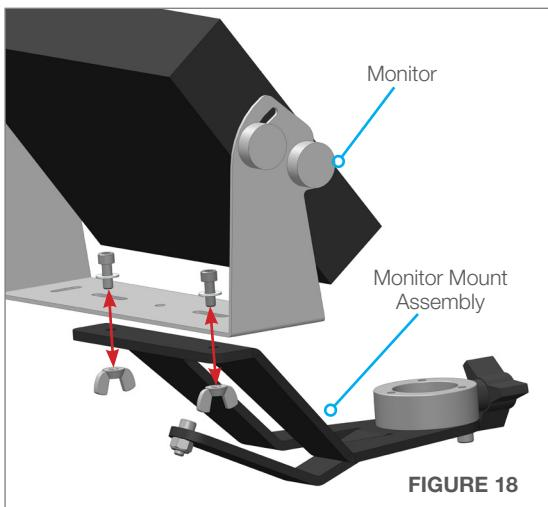

FIGURE 18
1. Attach the Monitor to the Monitor Mount Assembly with the supplied screws, washers, and wing nuts as shown in **(Figure 18)**. Tighten by hand.